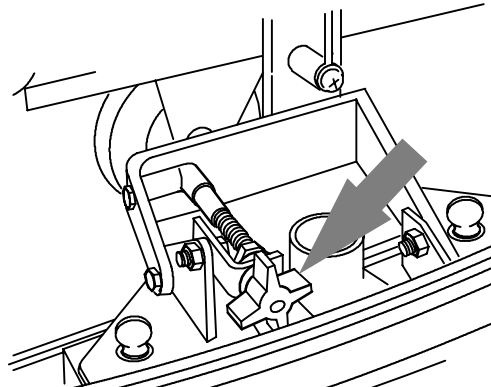

FIG. 7
3. Turn the squeegee leveling knob counter-clockwise to decrease deflection at squeegee ends, or clockwise to increase (Figure 7).